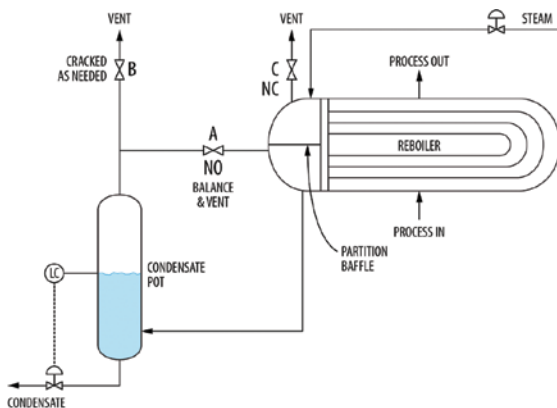

FIGURE 2. This configuration shows adequate venting in a horizontal thermosiphon reboiler. The balance line and vent are drawn from below the partition baffle
3. Figure 2 shows adequate venting of a horizontal thermosiphon reboiler. The balance line goes from below the partition baffle to the top of the condensate pot to minimize condensate backup into the reboiler, as advocated by Risko [5] and Lieberman [7]. Venting is accomplished by cracking valve B open. Opening valve C vents inlet steam, but